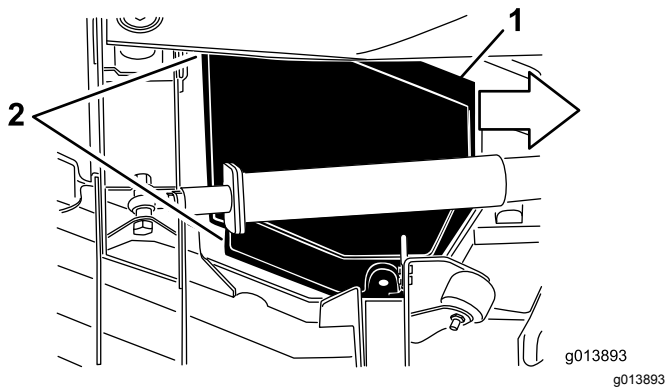

Figure 75
5. While lifting the cover, slide it toward the traction unit approximately 2.5 cm (1 inch) to disengage the outer-cover edge from the deck (Figure 75).